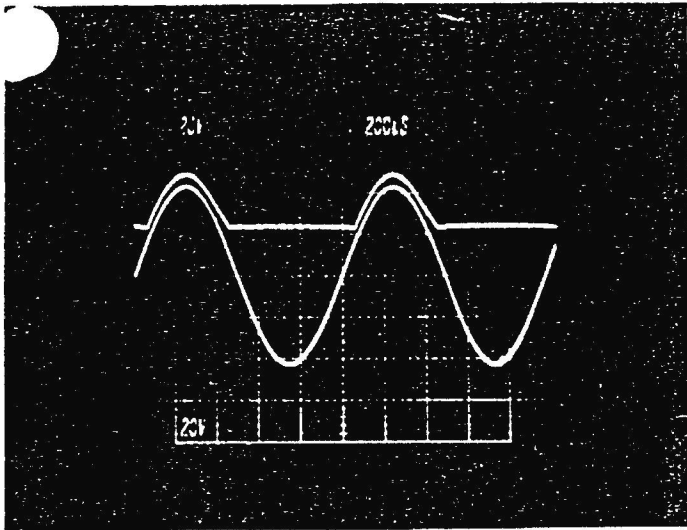
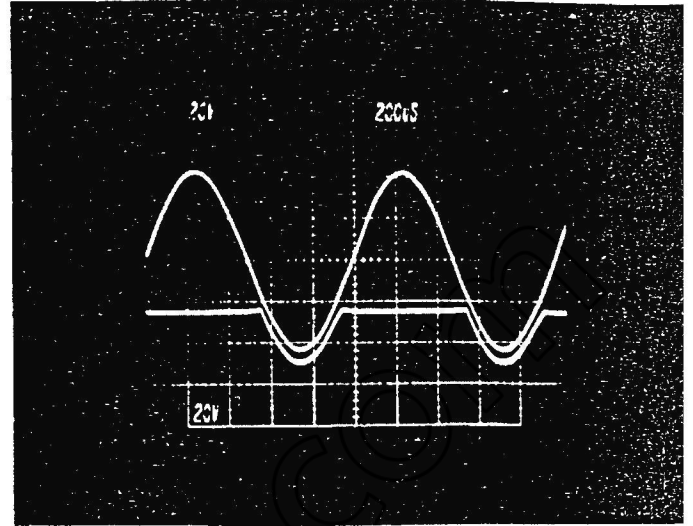
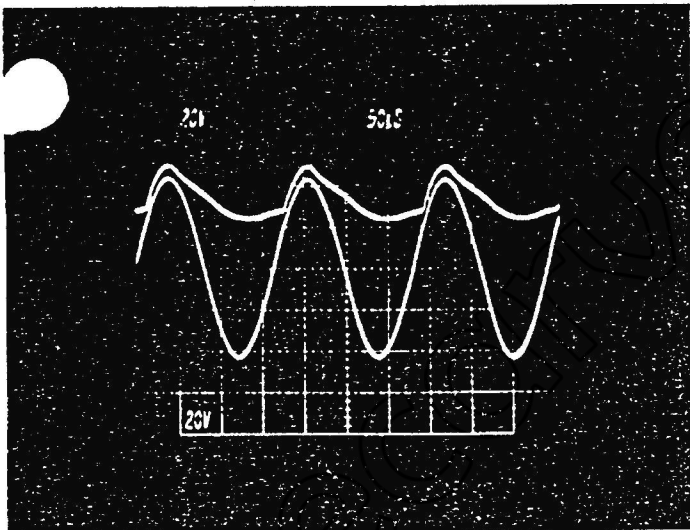

FIG 5
FIG 6
FIG 7
- Fig. 5 Pos. commutator at 1 kHz full power into 8 ohms
- Fig. 6 Neg. Commutator at 1 kHz full power into 8 ohms
- Fig. 7 Positive commutator at 6 kHz full power into 8 ohms
Normally, outputs Q_{12} and Q_{14} operate off of a $\pm 25V$ supply, however this rail voltage may be increased to $\pm 55V$ on demand. Commutation transistors Q_{10} and Q_{16} allow the supply voltage to "track" the audio between ± 25 and ± 55 volts. We will look at only the positive commutator circuit. The output signal of the amplifier is bootstrapped via C_3 and D_5 to the base of Q_9 which provides the necessary current gain for commutator Q_{10} . D_5 sets up a constant bootstrap voltage and determines the amount of lead voltage the commutator has over the output signal (see fig. 5 and fig. 6). The network formed by C_{17} , D_2 , and R_5 blocks the bias voltage on the base of Q_9 from the bootstrap network and provides additional voltage lead at higher frequencies (see fig. 7 and fig. 8).
- B) Check commutators [Fig. 5 & 6].